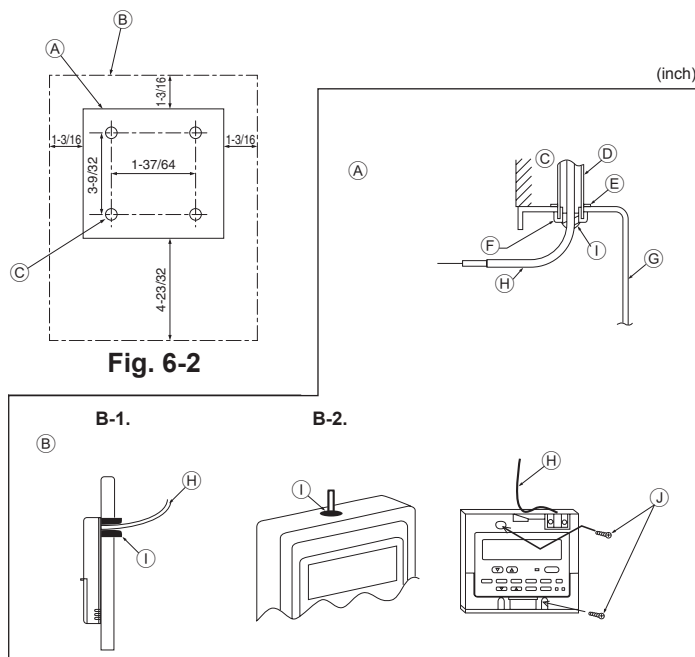

Fig. 6-3
- (A) Remote controller profile
- (B) Required clearances surrounding the remote controller
- (C) Installation pitch
(2) Seal the service entrance for the remote controller cord with putty to prevent possible invasion of dew drops, water, cockroaches or worms. (Fig. 6-3)